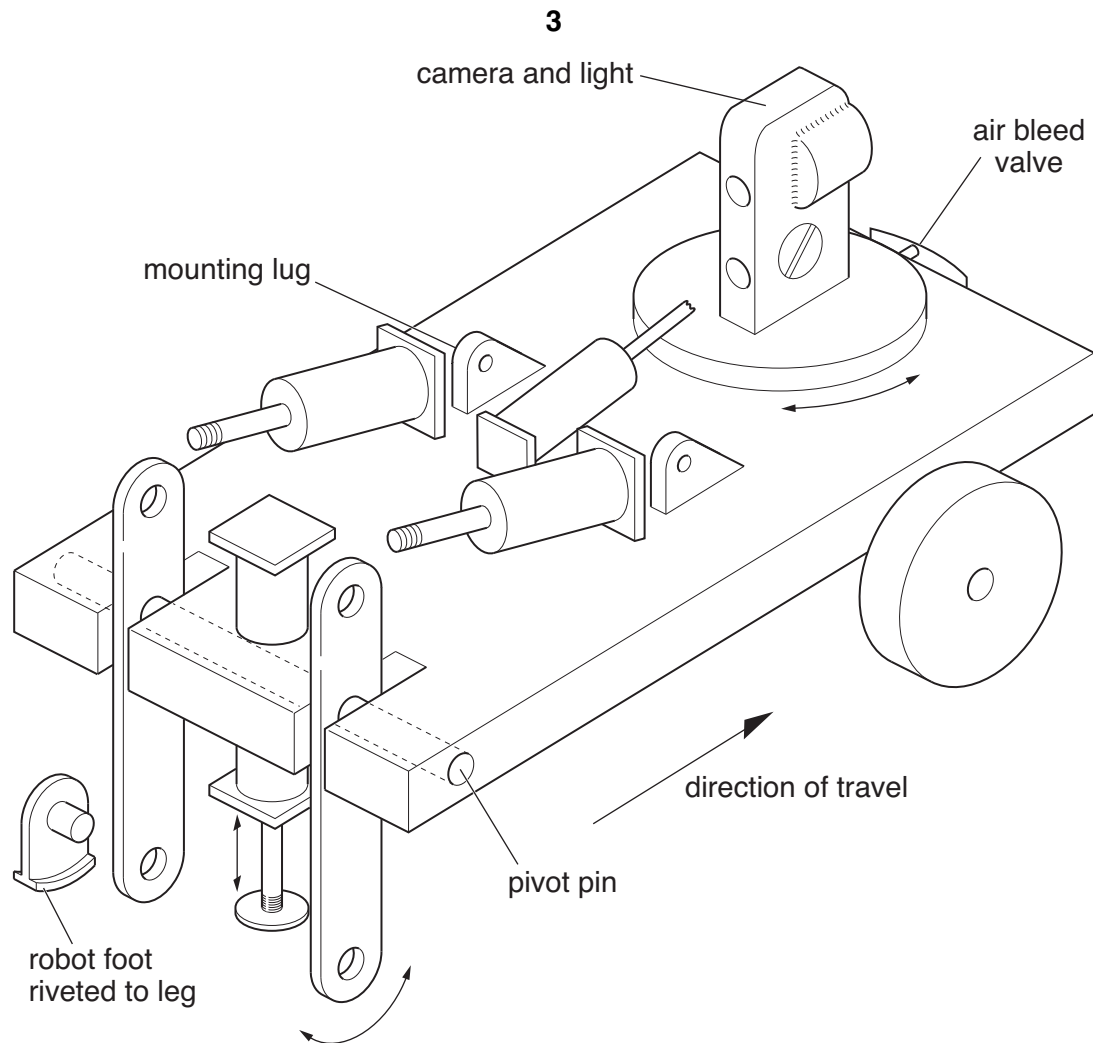
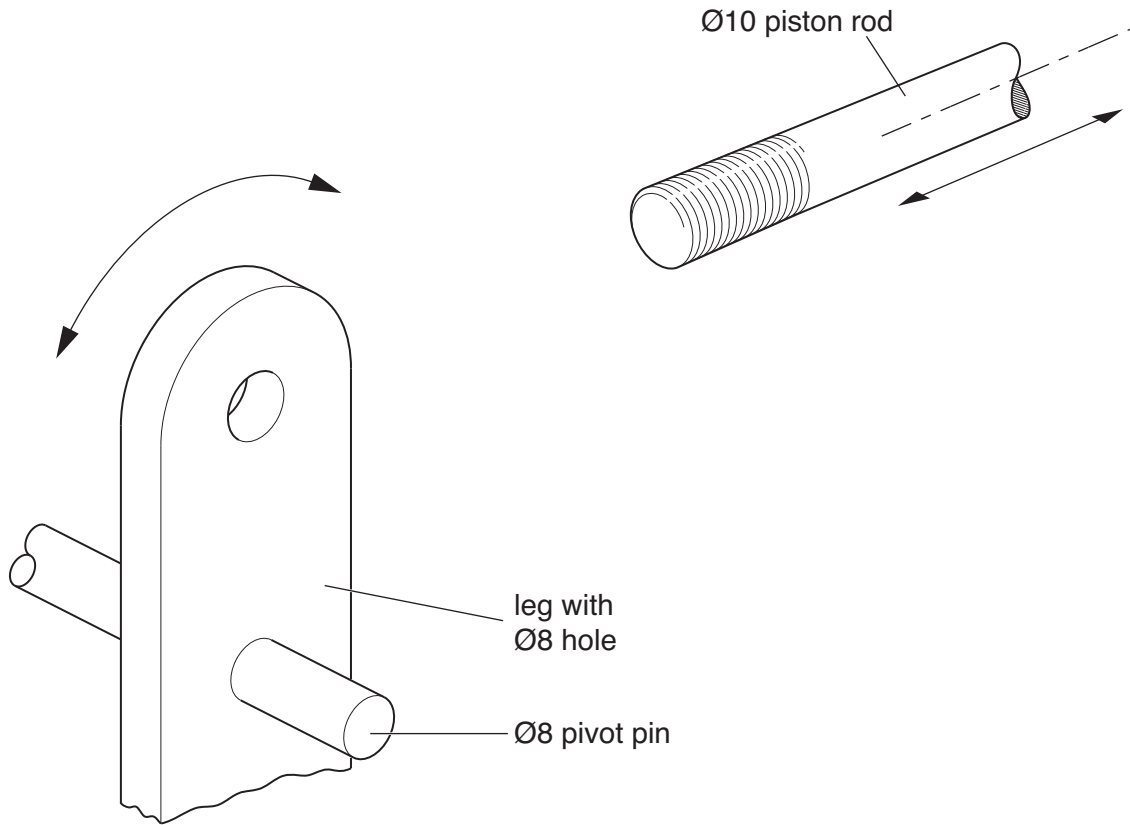

Fig. 1
Fig. 3
Fig. 1 shows a pneumatically walking robot.
- 2 Fig. 3 shows the top of one leg and the piston rod of an operating cylinder of the walking robot shown in Fig. 1.
- (a) Using notes and sketches, complete Fig. 3 to show a component that will fit on the threaded end of the piston rod and attach to the end of the leg allowing the two parts to move as required. [5]
3 It is important for the working of the robot that the two legs shown in Fig. 1 are identical.
- 4 (a) A suitable cylinder is required for the rotation of the camera and light as shown in Fig. 1.